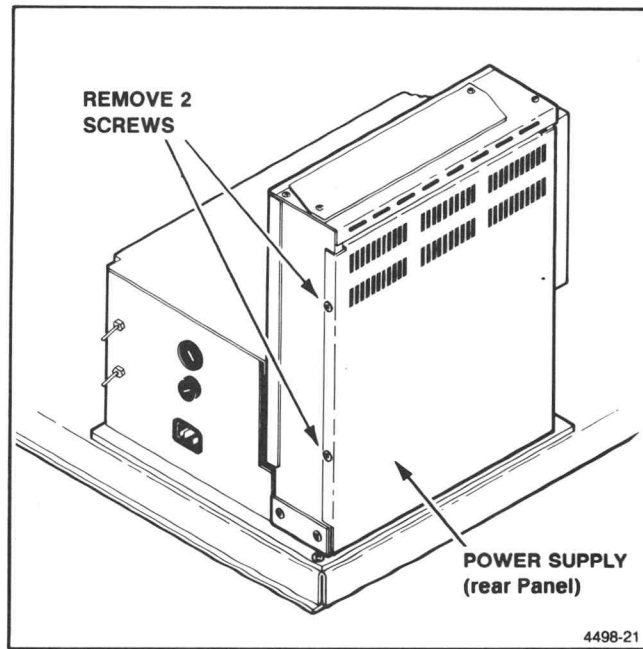

Figure 5-3. Power Supply Rear Panel Screw Locations.
1. Remove the rear panel on the power supply (see Figure 5-3).